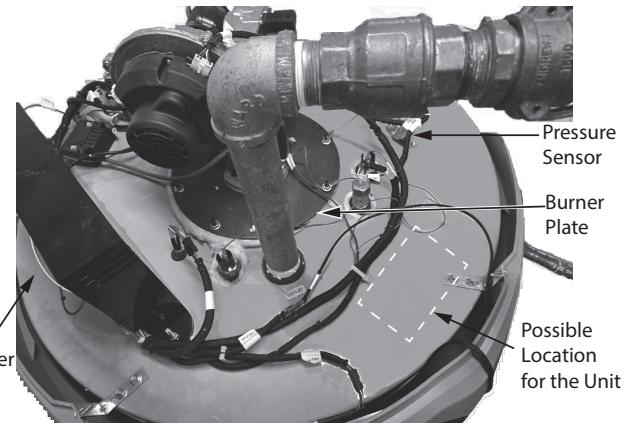

Figure 2. Controller and Pressure Sensor
2. Locate the black control box and the pressure sensor. Position the module between them. Leave at least an inch between the unit and the edge of the water heater as shown in *Figure 2*.